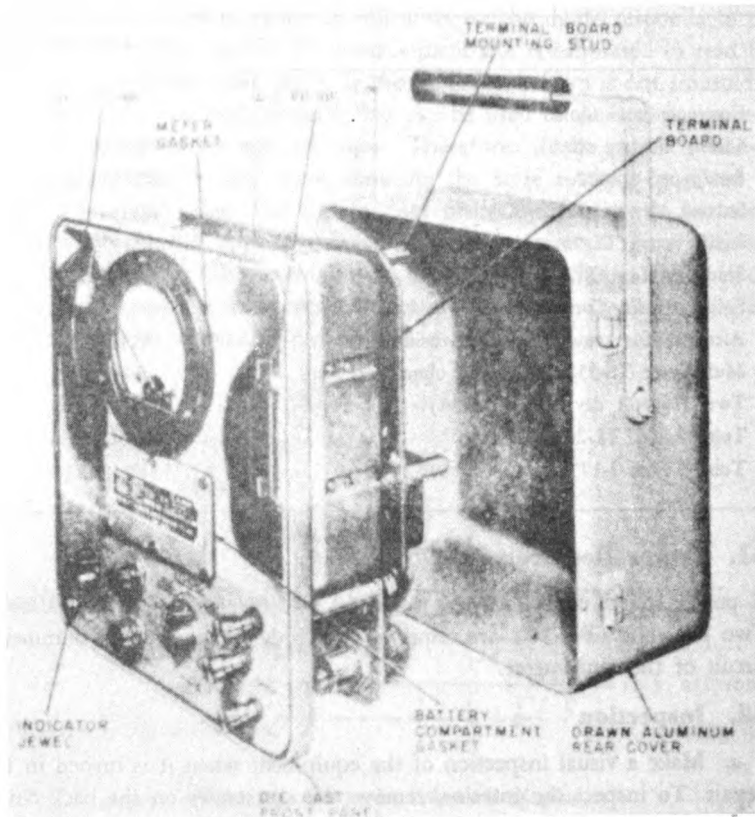

Figure 12. Electronic Multimeter TS-505/U, components removed from case.
*a.* Make a visual inspection of the equipment when it is turned in for repair. To inspect the interior, remove the six screws on the back cover and slide the instrument out of the cover (fig. 12).